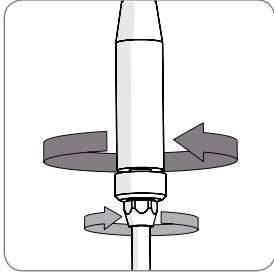

Fig 2
- Tighten fully the large hand nut to pull the two parts of the lance together. **(Fig. 2)**